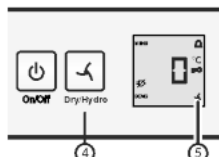

Fig. 3
- ▶ Setting **hydro**: Press the dry/hydro Fig. 3 (4) button until the  symbol appears. Release the button.
- ▷ The dry/hydro Fig. 3 (5) symbol lights up.
- ▶ Setting **dry**: Press the dry/hydro Fig. 3 (4) button until the  symbol goes out. Release the button.